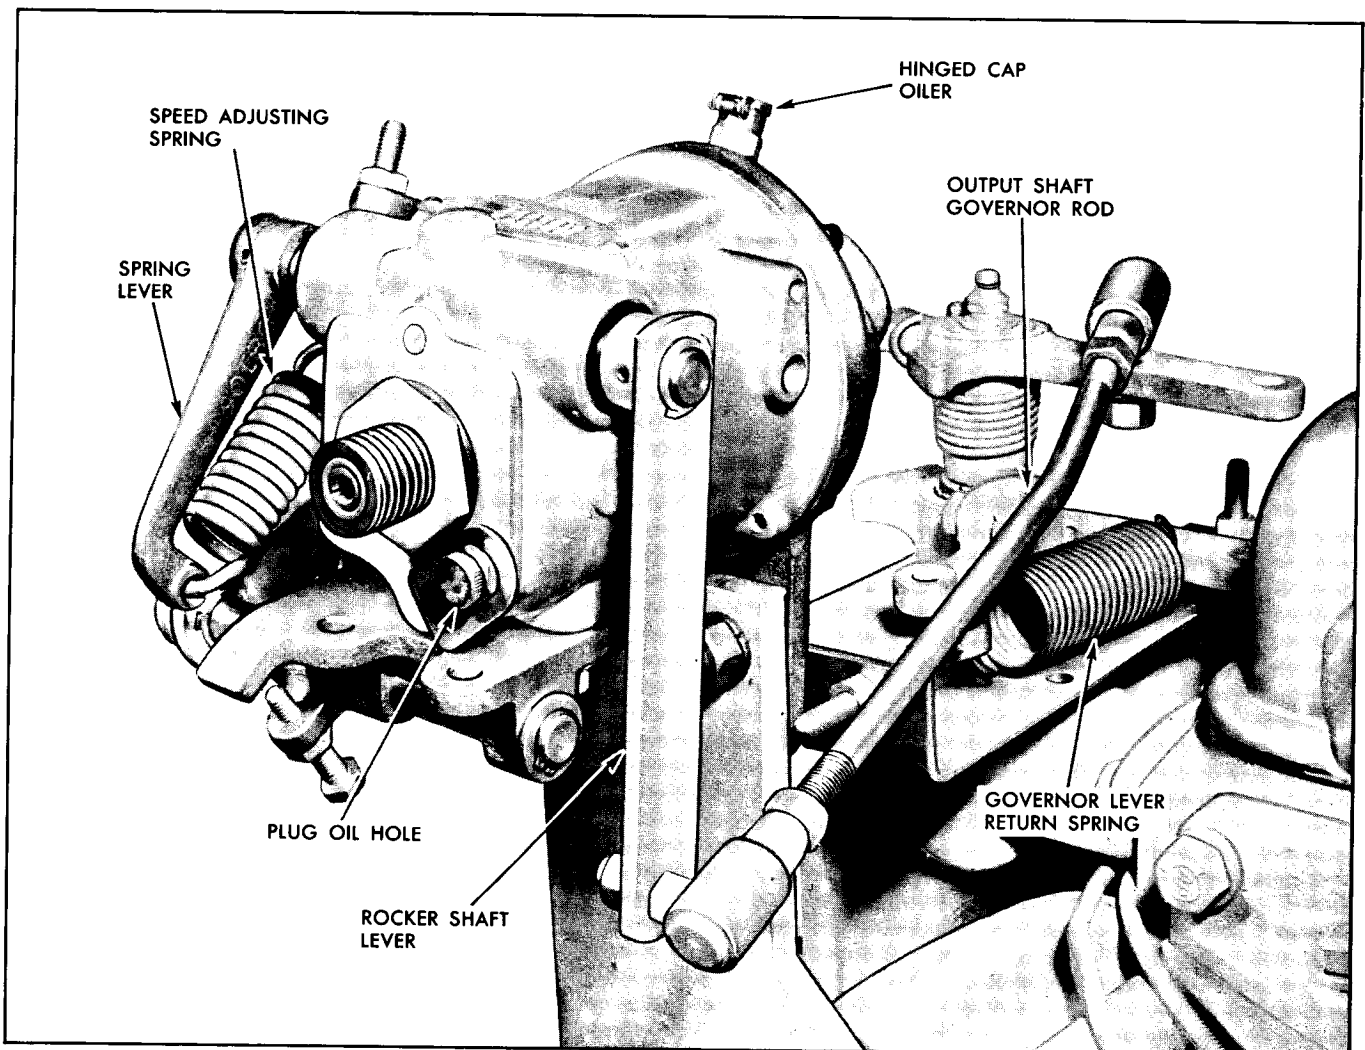

Fig. 2 - Mounting of Output Shaft Governor and Linkage to Engine Governor - Viewed from Front of Engine
9. Adjust output shaft governor rod length until it will just slide into the inner radius hole of output shaft governor lever. Then increase length of output shaft governor rod until there is approximately .020" between the stop pin and the output shaft governor lever and bend in rod is positioned as shown in Fig. 2. Tighten adjustment securely.